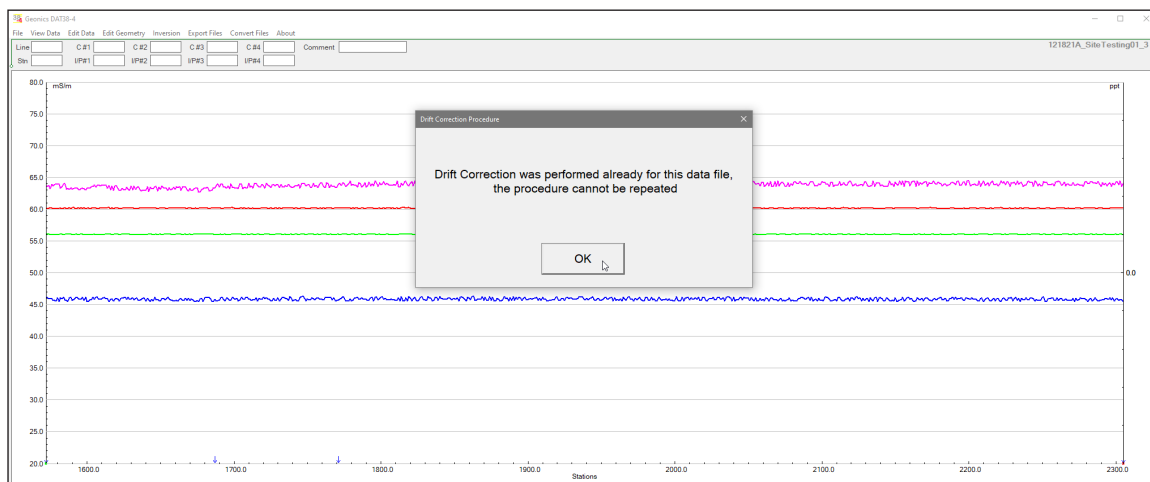

Figure 4.16 DAT38-4 screen with info about previously performed Drift Correction procedure
- If you attempt to run the Drift Correction procedure on data that has already been corrected (indicated by blue arrows), a message will appear (Figure 4.16).